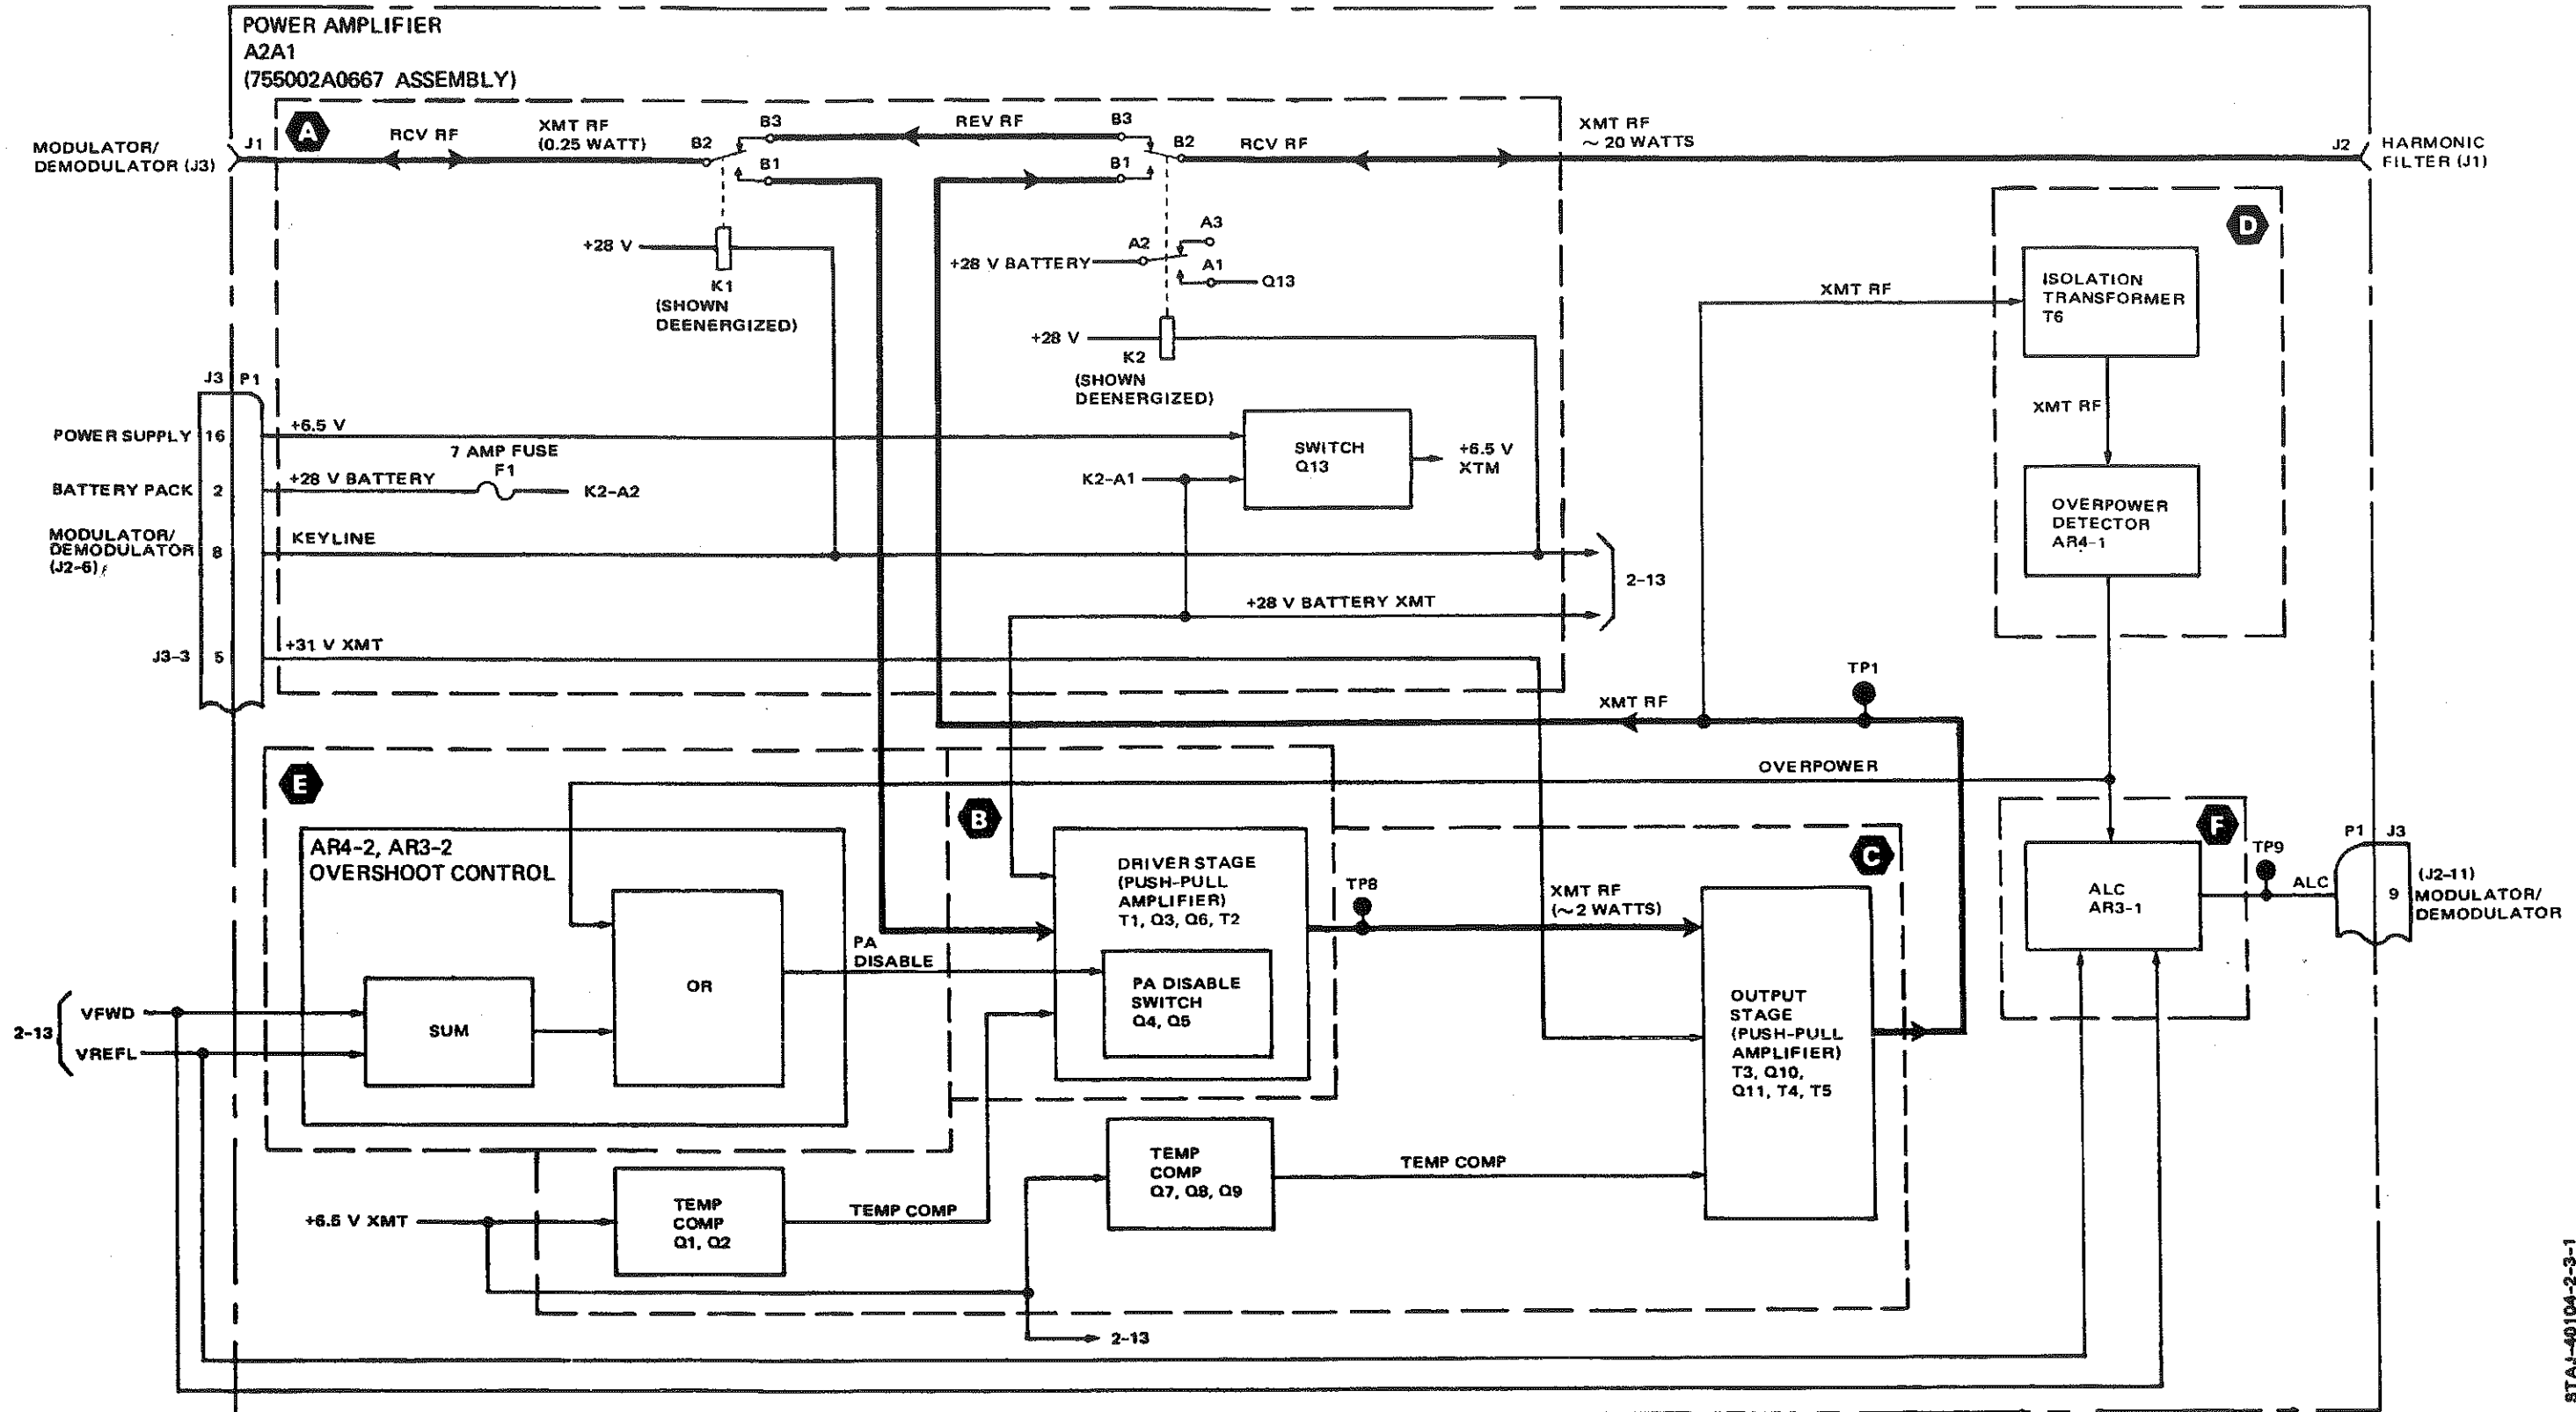

Figure 2-4. Power Amplifier (Sheet 1)
**POWER AMPLIFIER (3 of 4), fig 2-4, sh 2**